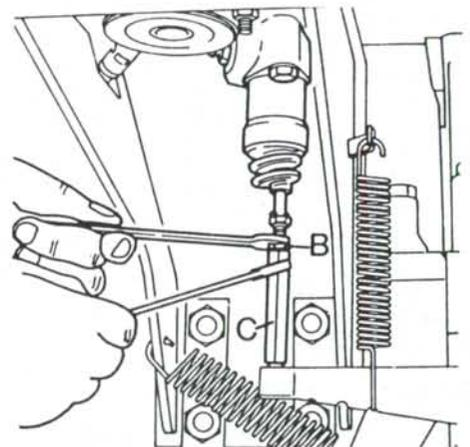

Fig. 159—View showing adjusting sleeve (C) and locknut (B) on 1490 and 1690 models.
213. Transmission clutch linkage should be checked and adjusted after every 60 hours of operation. Move cross-shaft lever away from slave cylinder push rod (Fig. 158) until release bearing is against release lever plate and note amount of lever movement. Clearance (free movement) between cross-shaft lever and end of push rod adjusting sleeve should be 4 mm (5/32 inch). If necessary, loosen locknut (B—Fig. 159) and turn adjusting sleeve (C) until correct clearance is obtained.